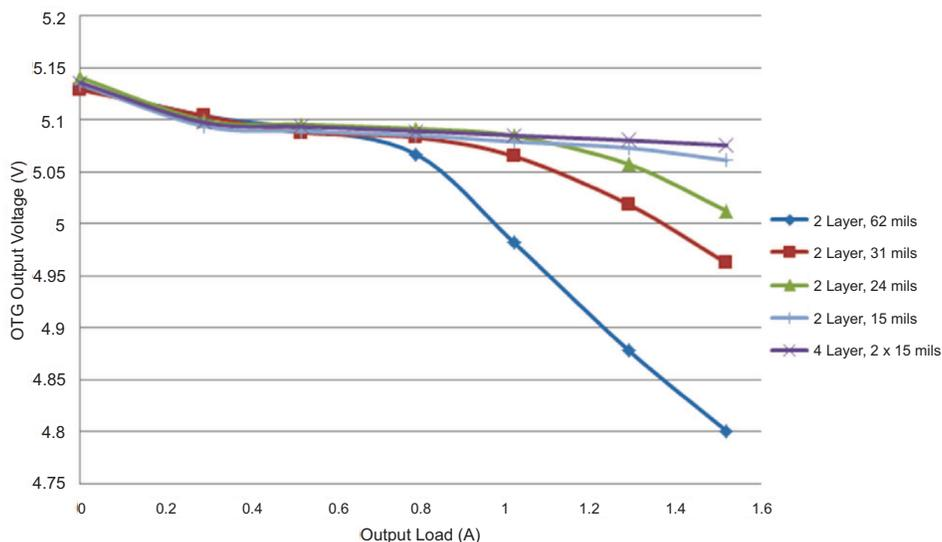

Figure 1. OTG Boost Mode 5-V Output Load Regulation Versus PCB Layer Thickness - Default Setting
6. PWB thickness affects the “On-the-GO” (OTG) Boost Output regulation at load currents over 0.75 A. An evaluation was performed using different thicknesses of PCBs with the Load Regulation results shown in Figure 1.